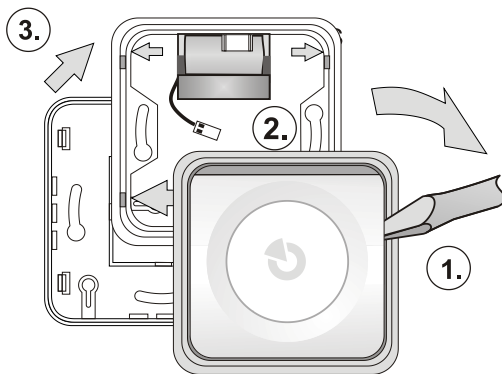

Figure 1: Disassembly of the siren before installation
1. Remove the body (buttons) from the plastic frame by pressing on a side of the body (1.) using a screwdriver as shown in figure 1.
4. Attach the plastic base to the selected place using screws. If the siren uses a battery, place it underneath the top side of the plastic base as shown in figure 1.